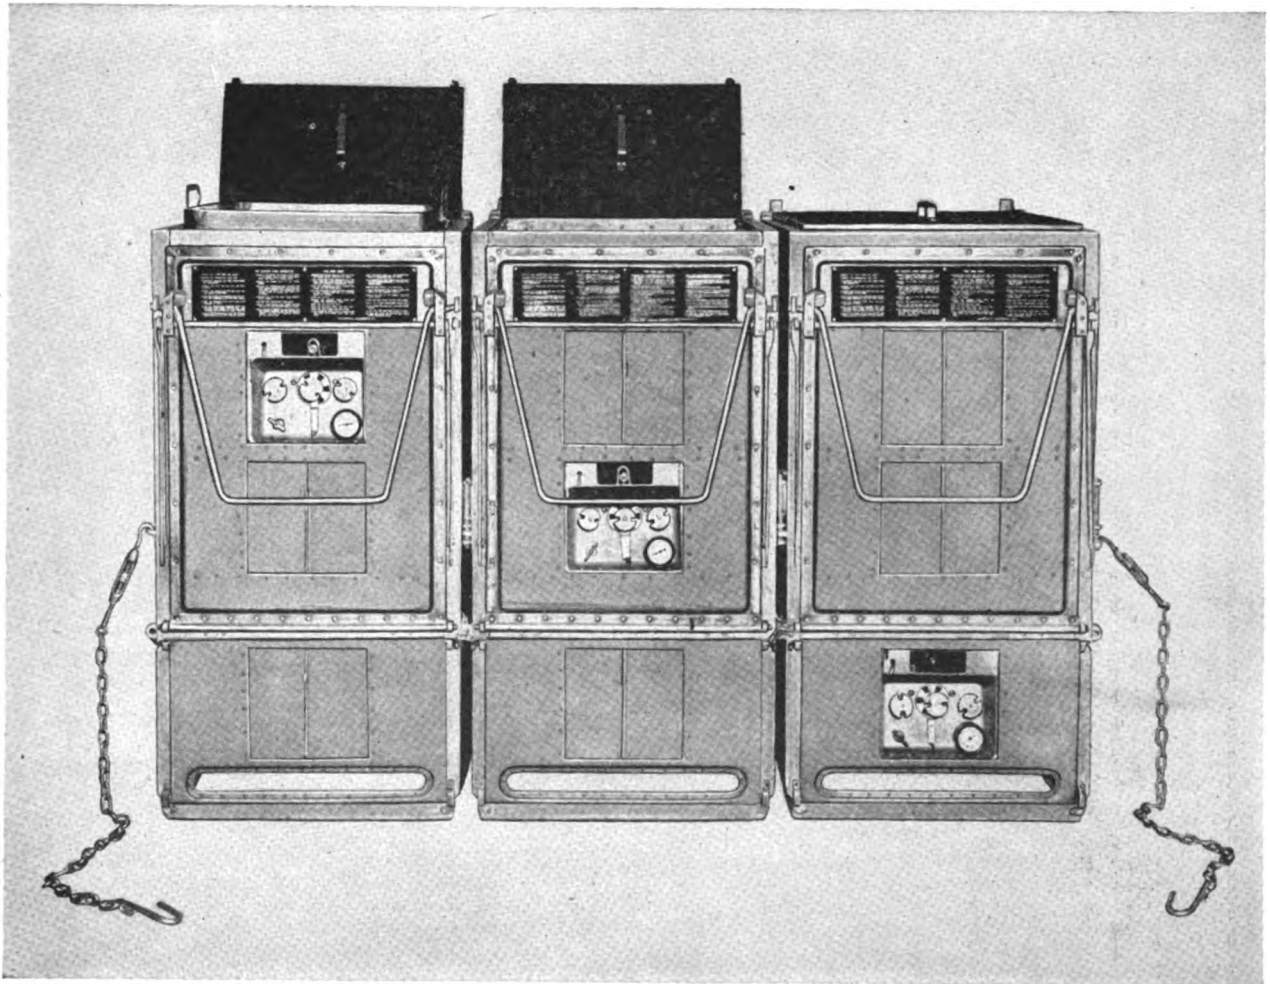

Figure 31. Range field, M1937 (65-J-2227) (3-cabinet unit with fire units in three possible positions).
a 3-unit range (stock No. 65-J-2227). (See fig. 31.)
b. The M1937 fire unit is a separate piece of equipment and may be used in any one of three positions in the cabinet, depending on the type of cooking to be done. (See fig. 31.) The slide doors in front of the fire unit must always be open when the unit is in use. It also may be operated outside of the cabinet. Gasoline is carried in a 5-gallon can. In addition, a folding grate (see fig. 32) is carried at the bottom of the range to be used when a wood fire is necessary.